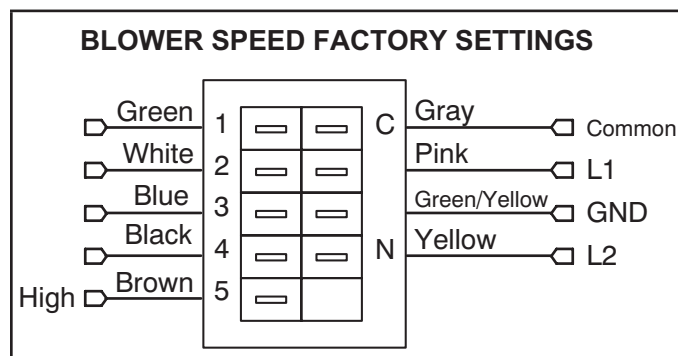

FIGURE 12
- 3 - Use FIGURE 12 to determine the factory-set blower speed.
- 4 - Use direct drive blower tables, the measured static pressure and the factory-set blower speed to determine CFM. If CFM is lower or higher than the design specified CFM, move the leads as shown in FIGURE 12.